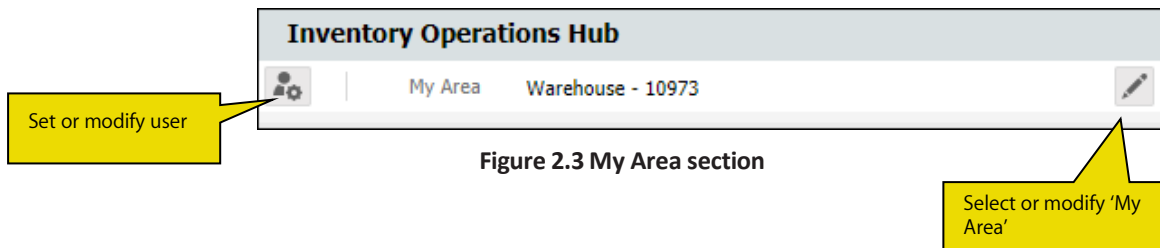

Figure 2.3 My Area section
1. The **My Area** section is available at the top of the Inventory Operations Hub. See Figure 2.3.